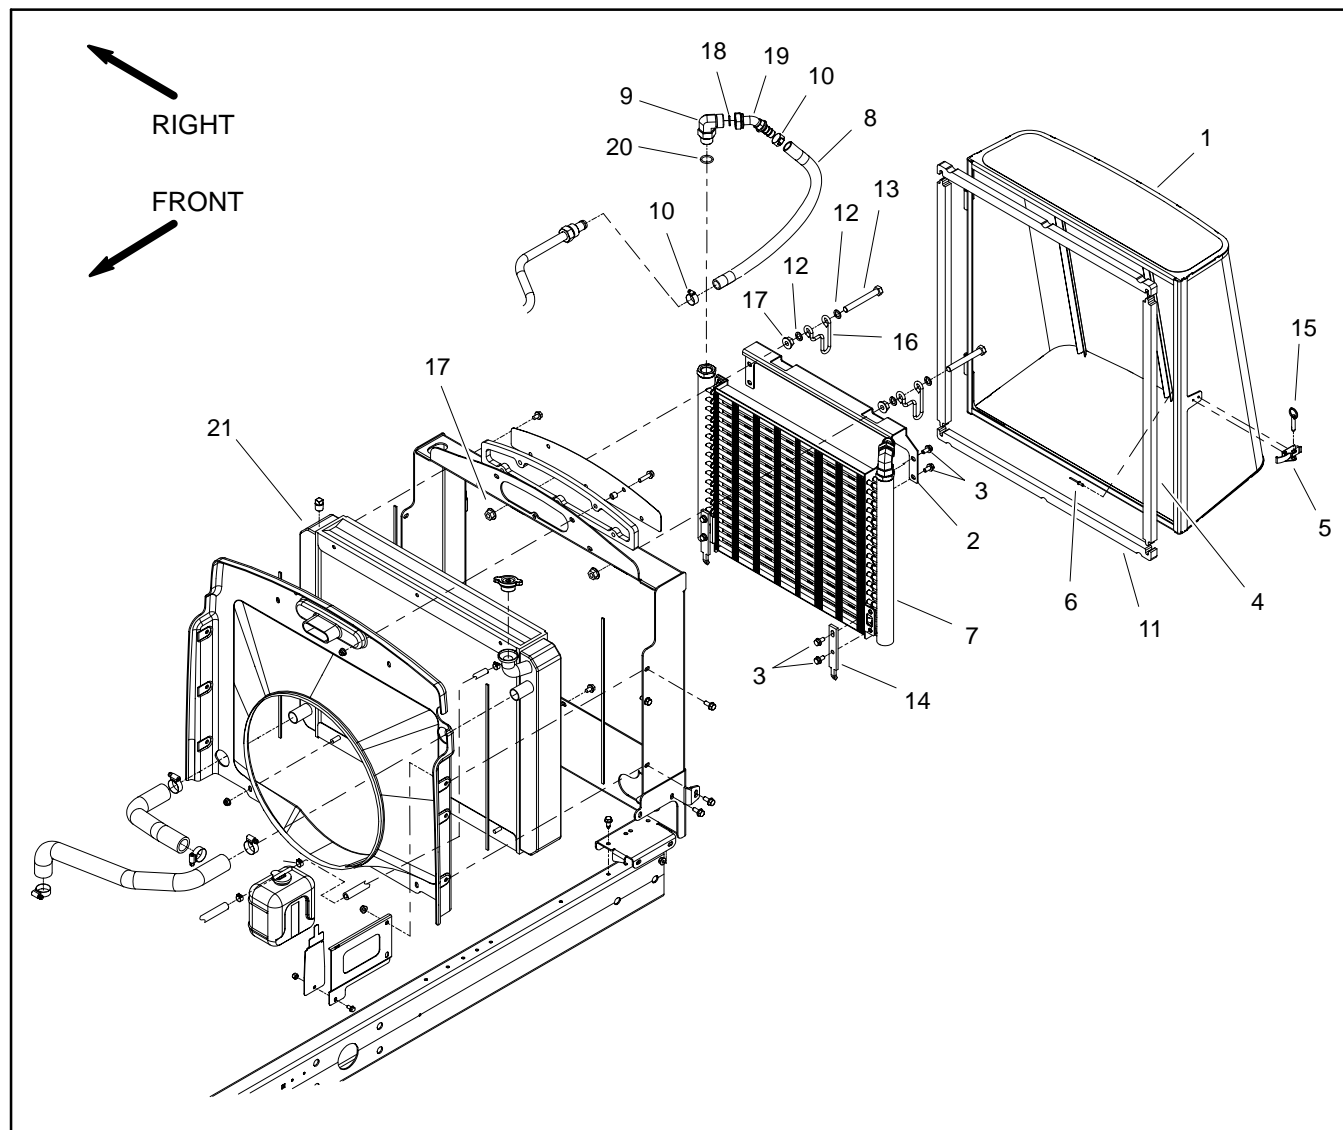

Figure 104
Removal (Fig. 104)
7. If necessary, remove hydraulic fittings, clamps and brackets from oil cooler using Figure 104 as a guide.
Installation (Fig. 104)
1. If removed, install hydraulic fittings, clamps and brackets to oil cooler using Figure 104 as a guide.